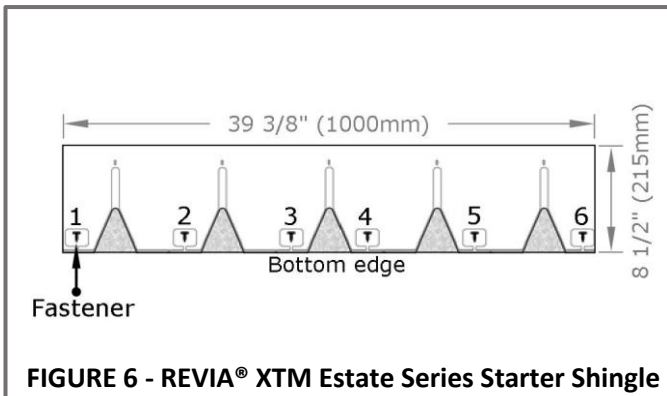

FIGURE 6 - REVIA® XTM Estate Series Starter Shingle
- Fasteners must be positioned within the boxes indicated on the shingle. See **Figure 6**.